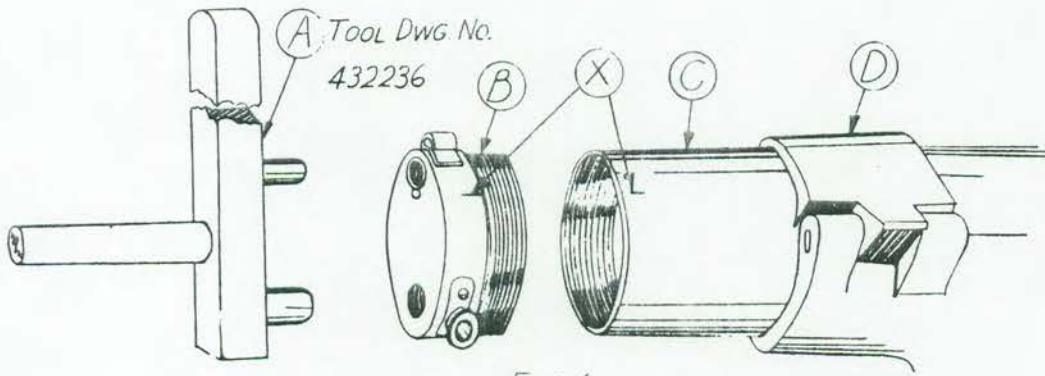

FIG. 1
(26) TAKE A SHARP CHISEL AND CUT AN ALIGNMENT LINE (X) ACROSS CAP (B) AND JACKET (C). NOW PUT JACKET (C) IN VISE SO THE CAP END IS HEATED BY THE BURNERS IN FIG. 1, SHEET 14. REMOVE CAP WITH TOOL (A). NOW CLEAN AND STRAIGHTEN JACKET AS IN OPERATION (25). RECOAT THREADS IN JACKET (C) AND CAP (B) WITH SOLDER AND SCREW THE CAP IN. TIGHTEN UP TO ALIGNMENT MARKS (X).